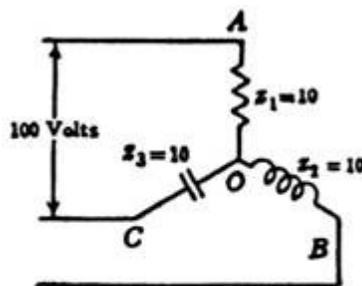

Figure A.2
A.3. Figure A.2 shows an unbalanced set of impedances connected in Y, to which are applied balanced line voltages. Find the line currents and line voltages. In the figure, impedances are expressed in Ohms.